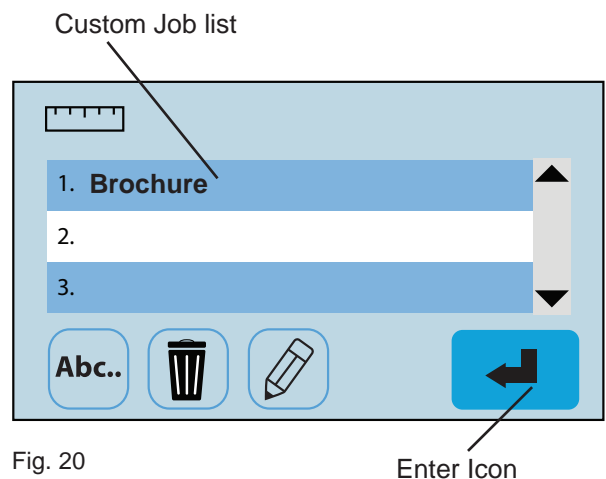

Fig. 20
- Select the custom job and press the blue enter icon  to set the fold stops (Fig. 20). When the fold stops are set, the folder will return to the Home Screen with the custom job selected.